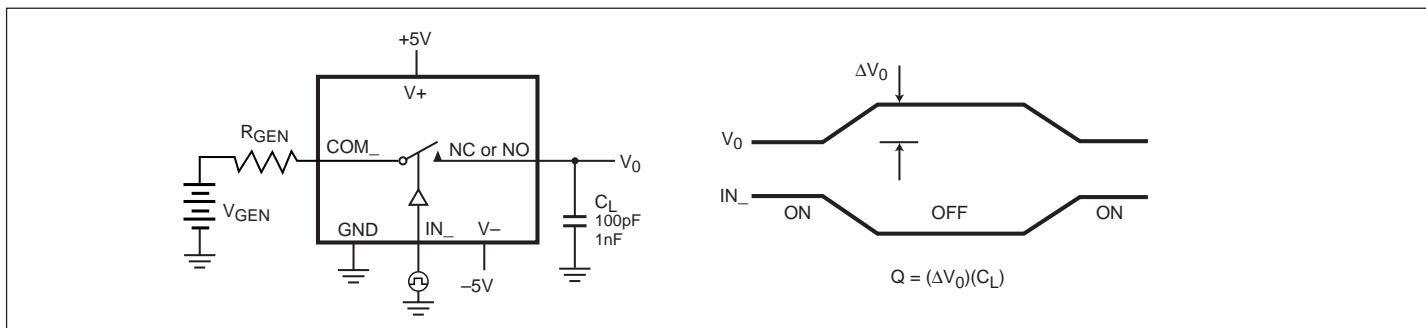

Figure 6. Charge Injection
6. See Figure 6. Off isolation = $20\log_{10} V_{COM}/V_{NC}$ or V_{NO} , V_{COM} = output, V_{NC} or NO = input to off switch